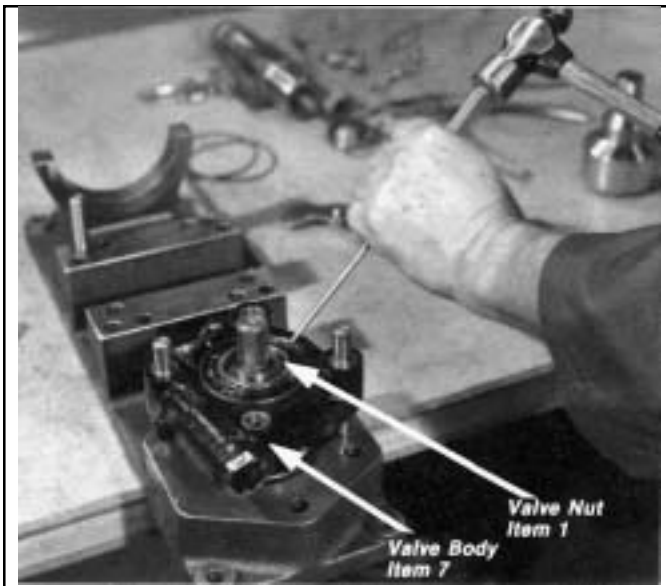

FIGURE 33 - VALVE NUT TO VALVE BODY SAFETY POINT
21. With a drift punch, unblock the safety point between the valve nut (1) and valve body (7). Using Spanner wrench 106234 loosen and remove the valve nut (1) from the valve body (7). Figures 33 & 34